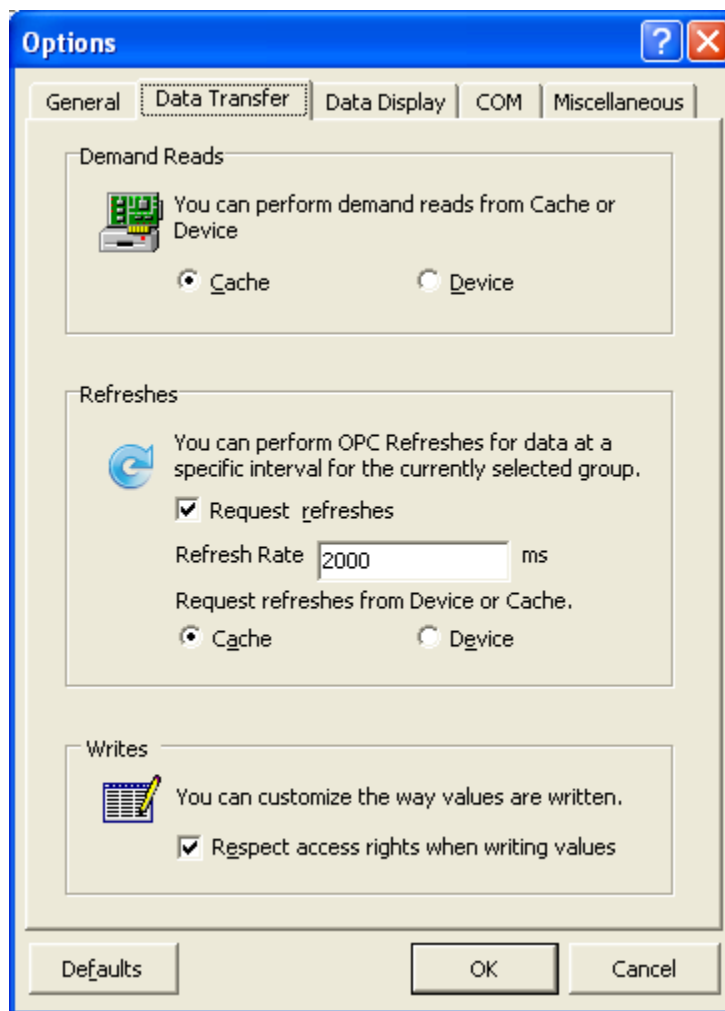

Figure 30 - Data Transfer Options Tab
3. From the **Options** window, select the **Data Transfer** tab (Figure 30).